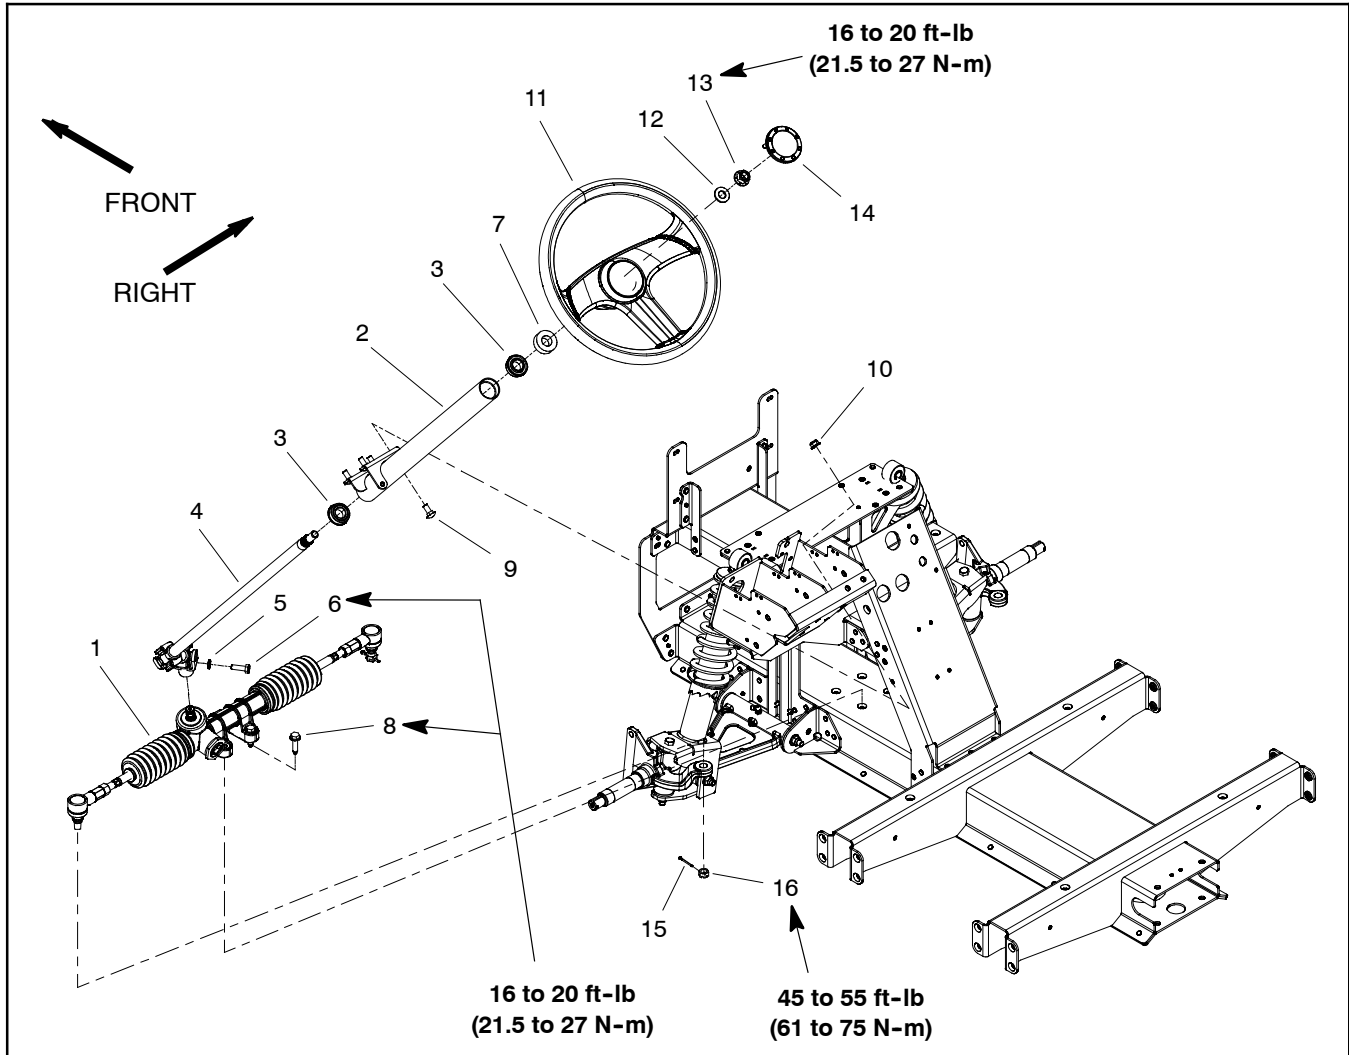

Figure 27
Disassembly (Fig. 27)
7. Support steering column to prevent it from falling. Remove four (4) flange nuts and carriage bolts securing the steering column to the mounting plate on the frame.
12. Remove four (4) washer head screws that secure the steering rack assembly to the front frame. Remove rack assembly from the vehicle.
- Assembly (Fig. 27)**
2. Secure rack assembly to the frame with four (4) washer head screws. Torque screws from **16 to 20 ft-lb (21.5 to 27 N-m)**.
4. Position steering column assembly to vehicle frame and slide lower steering shaft joint onto the steering rack input shaft. Secure steering column to the mounting plate on the frame with four (4) carriage bolts and flange nuts.